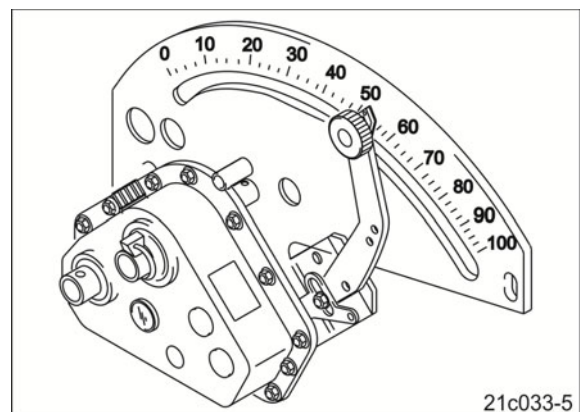

Fig. 196
5. Reduce the seeding rate to half. Adjust the gearbox setting lever (Fig. 196/1) accordingly.